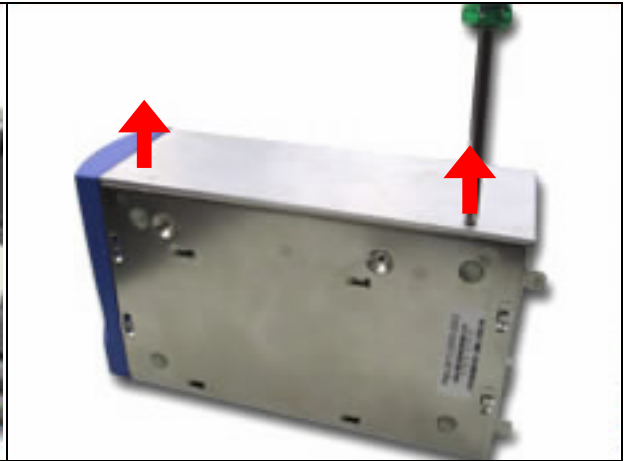

Fig. 2-9 Remove the screws on the side
6. Remove the screws on the side (*Fig. 2-9*).